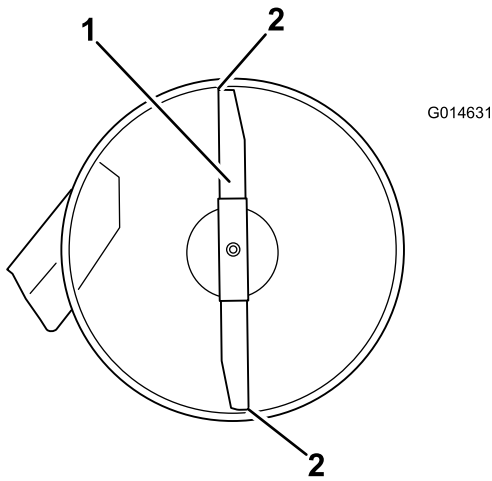
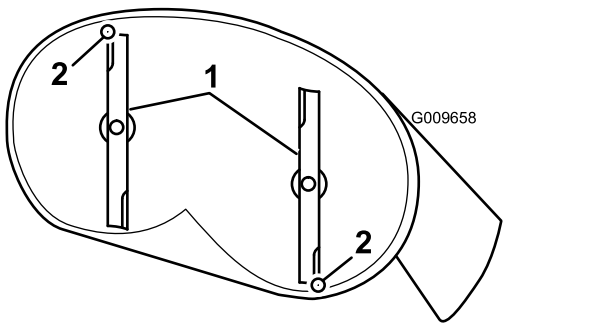
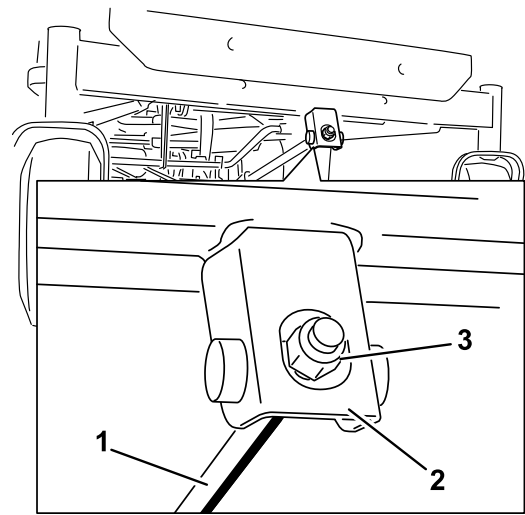

Figure 61
Figure 62
Figure 63
- Carefully rotate the blade(s) so they are facing front to rear (Figure 61 and Figure 62).
- Measure from the tip of the front blade to the flat surface, and the tip of the rear blade to the flat surface (Figure 62 and Figure 63).
- To adjust the front-to-rear blade slope, rotate the adjustment nut in the front of the mower (Figure 63).
- After adjustment, check the front-to-rear slope again, continue adjusting the nut until the front blade tip is 1.6 to 7.9 mm (1/16 to 5/16 inch) lower than the rear blade tip (Figure 62 and Figure 63).